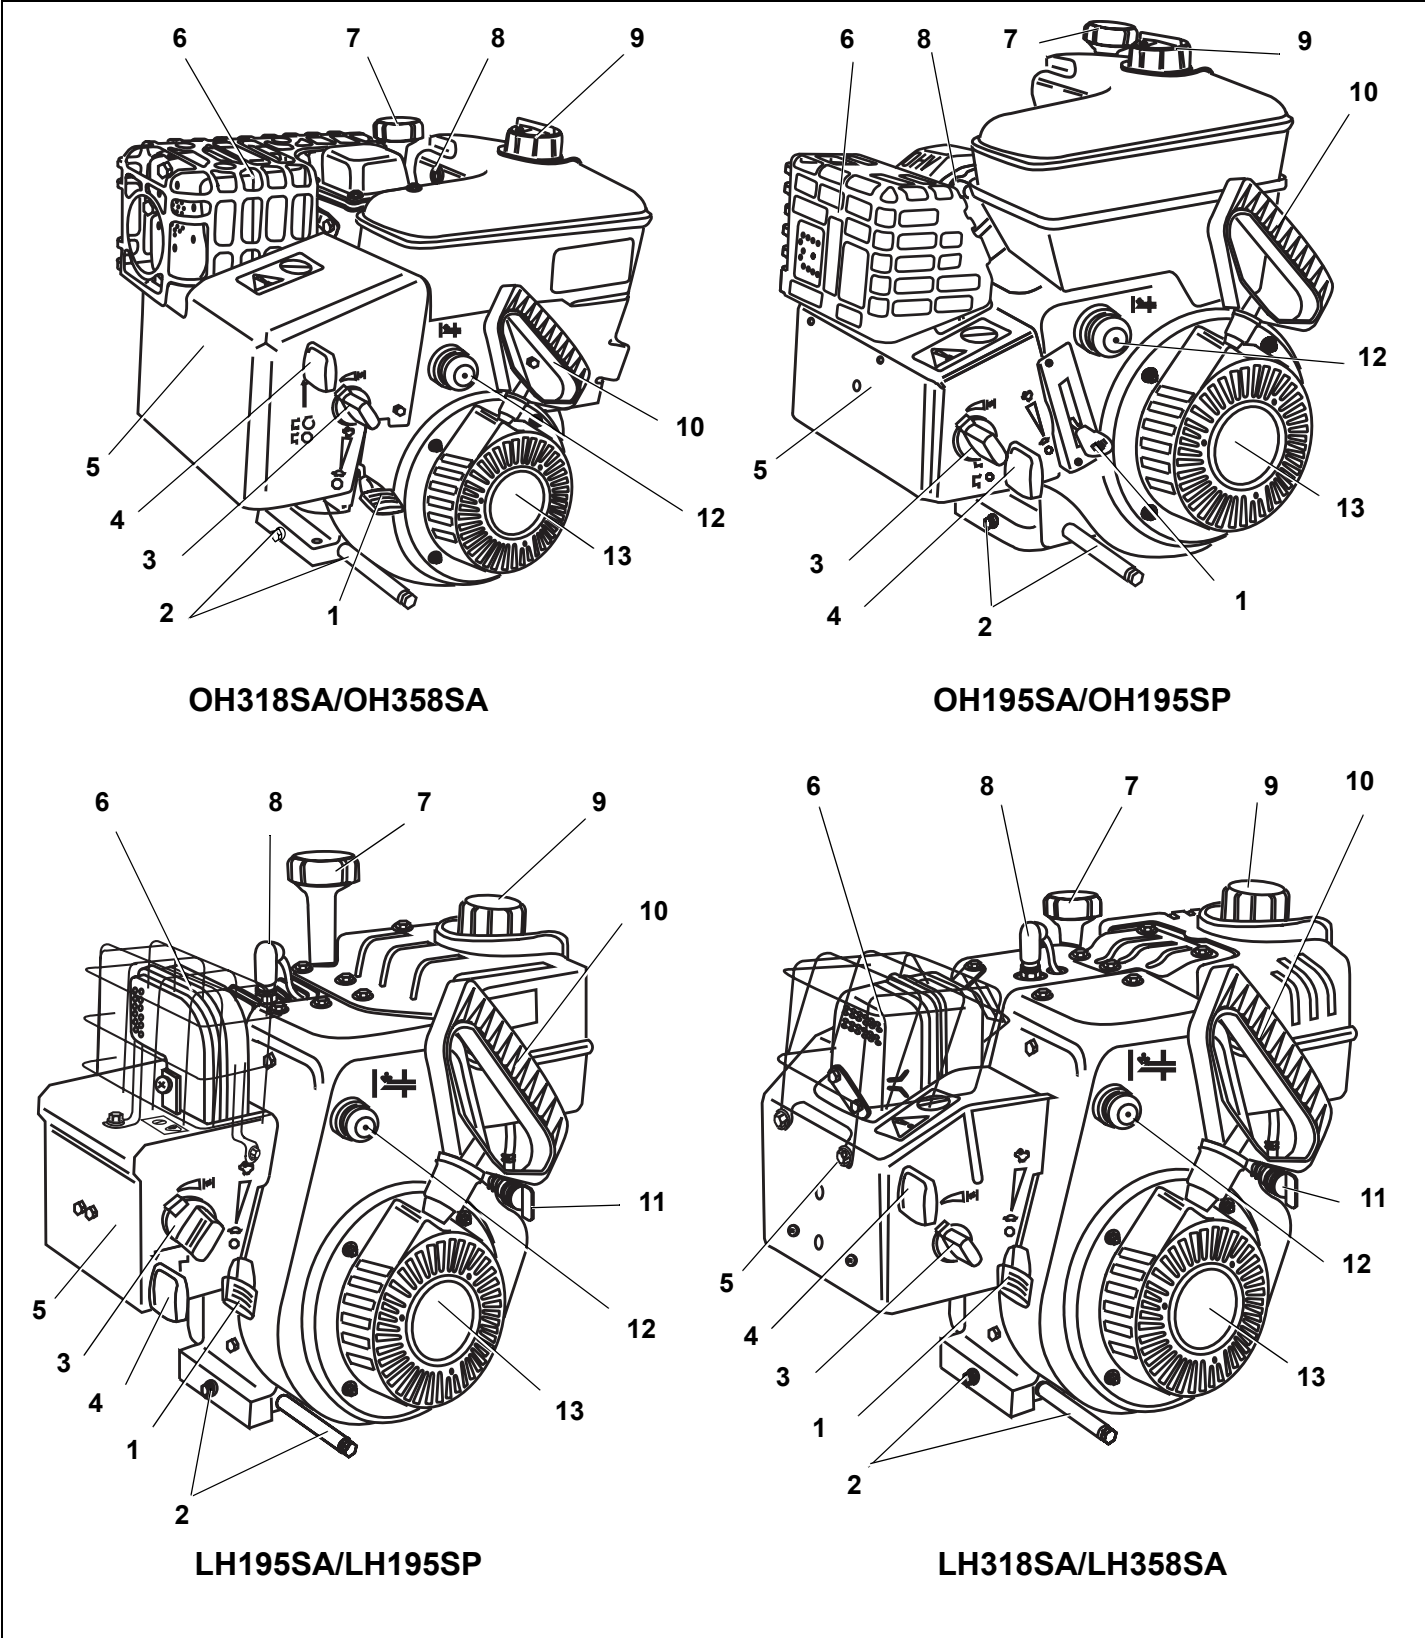

Figure 14. 4-Cycle Snow Engine Components
The item descriptions listed below are for all 4-Cycle Horizontal Crankshaft Snow King Engine Models. See Figure 14 on page 7.
3. Clean area around fuel fill cap and remove fuel fill cap. See Figure 14 on page 7. Afterward, continue reading instructions below.